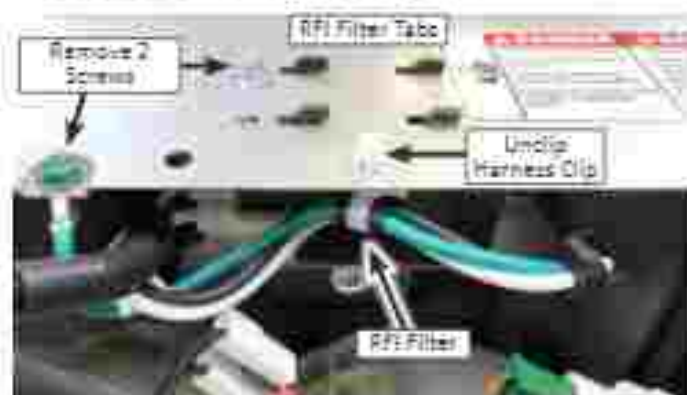

Figure 1
5. Using either a 3/4" hex-head, or T20 Torx driver, remove the "green" ground screw and the one screw securing the RFI filter to the rear bracket. See Figure 1.
6. Unclip the harness clip and slide RFI Filter to disengage tabs from top of rear bracket. Remove RFI filter (see Figure 1).
7. With filter removed, disconnect the two (2) AC Input terminals and the one AC output connector. Remove RFI filter from washer.